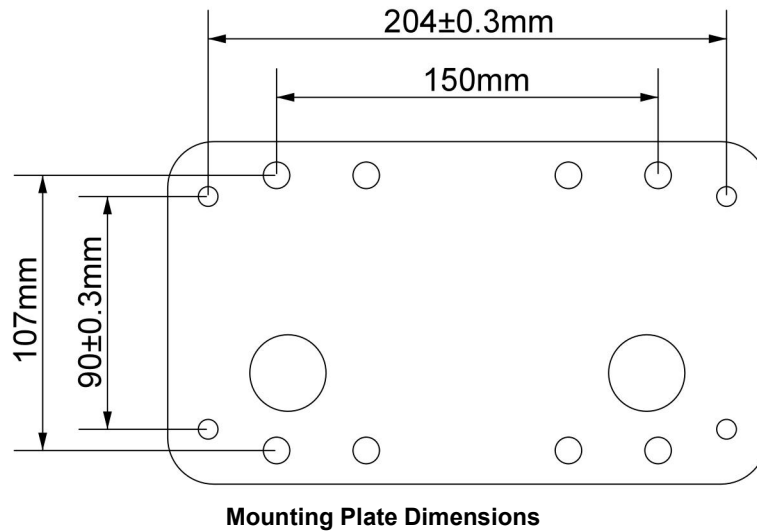

Figure 8
- Pre embed the anchor bolts as per $\Phi 10$ holes in Figure 8 before concreting, after hardening, place the mounting plate, fit and tighten anchor bolts (as per figure 11).